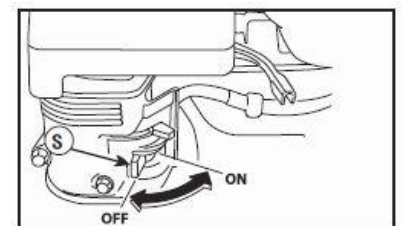

Fig. 12
6. Move fuel valve lever (S) to "On" position. (See Fig. 12)
3. Move fuel valve lever (S) to "Off" position. (See Fig. 12)